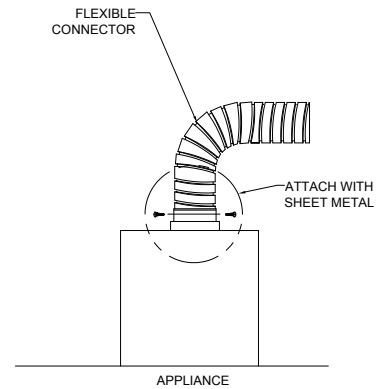

FIG. 6
5. Attach the inlet (bottom) end of the connector to the appliance or to any applicable B-Vent style appliance outlet fitting (See FIG. 6). Use sheet metal screws, as necessary to securely fasten the connector inlet fitting to the appliance or appliance outlet fitting